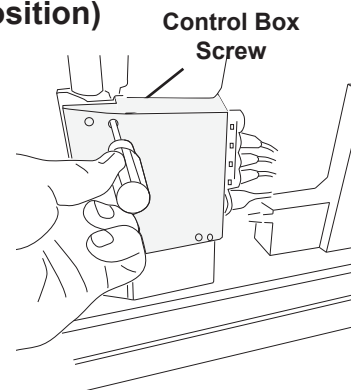

Figure 45.
4. Apply upward pressure on the control box while unscrewing the control box securing screw (Figure 45).